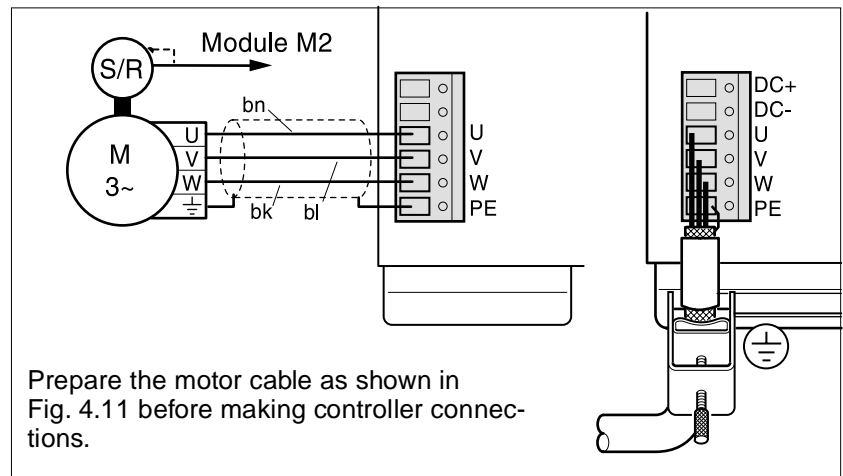

Fig. 4.9 Connecting the motor cable to the controller
- The shield braiding of the motor cable must be connected to the motor housing, to the controller housing, and to the enclosure entry point with a large surface area connection. Connect the shield braid to the controller housing using the shield clamp provided. Refer to Fig. 4.9 for shield clamp installation.